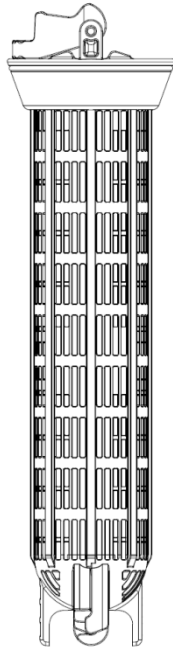

Fig. 11A: Basket ring at top of basket (side view)
2.5.1.7.2 Once slots in basket ring are aligned with runner ribs of basket, push down on basket ring to lower basket ring to bottom of basket. (See fig. 11A, 11B, and 11C.) **[NOTE: Lowering basket ring will allow basket halves to separate from each other. Be careful not to allow basket to fall over as this could damage basket or injure operator.]**